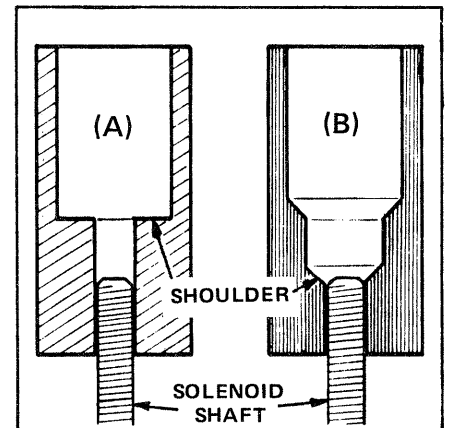

FIGURE 6-8 Adjust the couplers as shown.
Install a Coupler on each of the Solenoids and screw them on until the threaded shaft of the Solenoid is half way to the shoulder inside the Coupler as shown in FIGURE 6-8 (A).
Adjust the metal coupler on the other end of each Solenoid until the threaded shaft of the Solenoid is to the first shoulder inside the Coupler as shown in FIGURE 6-8 (B).